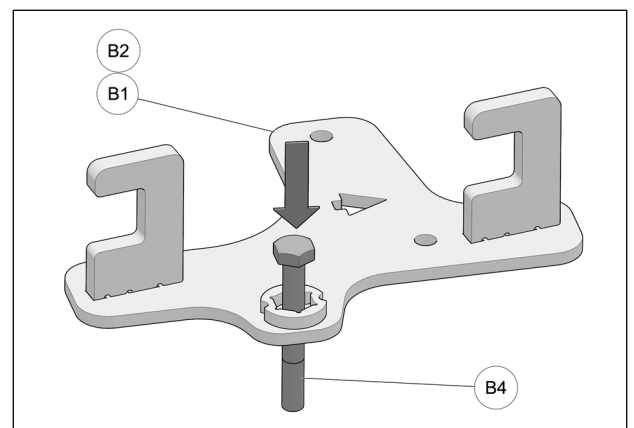

Fig. 4
5. Insert M10x80mm bolt (B4) in rear anchor bracket (B1-B2) as shown in Fig. 4